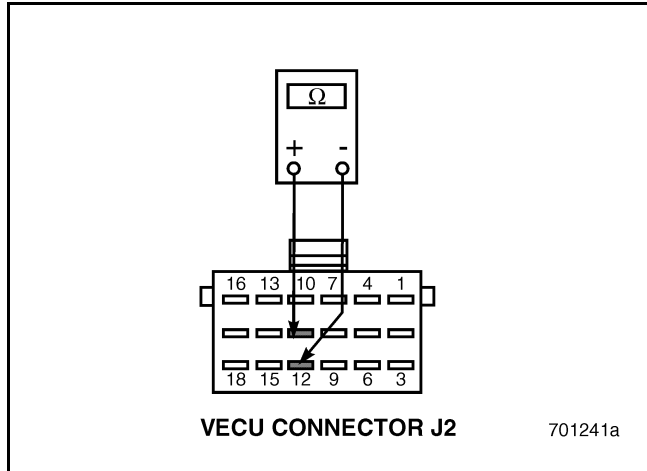

Figure 439
4. Check for continuity between VECU connector J2 pins 11 and 12 (see Figure 439).